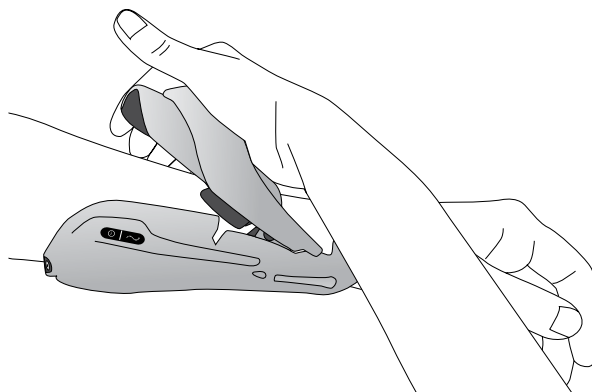

Figure 6-7: Closing the Extensor Wing
5. If the Orthosis is positioned correctly, close the extensor wing. Place your hand on top of the wing arm and grasp under the Orthosis extensor wing with your fingers. Pull the extensor wing out while pushing down on the wing arm. Push until no more clicking can be heard. See Figure 6-7.